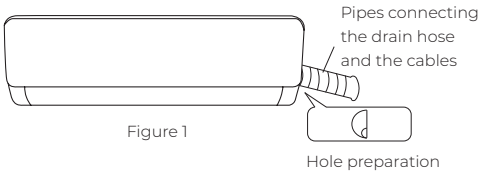

Figure 1
- Depending on the position of the unit, the piping can be routed from the side on the left or right (Fig. 1), or vertically from the back (Fig. 2), depending on the length of the indoor unit's pipe. For side routing, the outlet caps on the appropriate side of the unit's casing must be cut off.
- Depending on the position of the unit, the piping can be routed from the side (left or right) (Fig. 1), or vertically from the back (Fig. 2), depending on the length of the indoor unit's pipe. In the case of side routing, the outlet caps on the appropriate side of the unit's casing must be cut off.